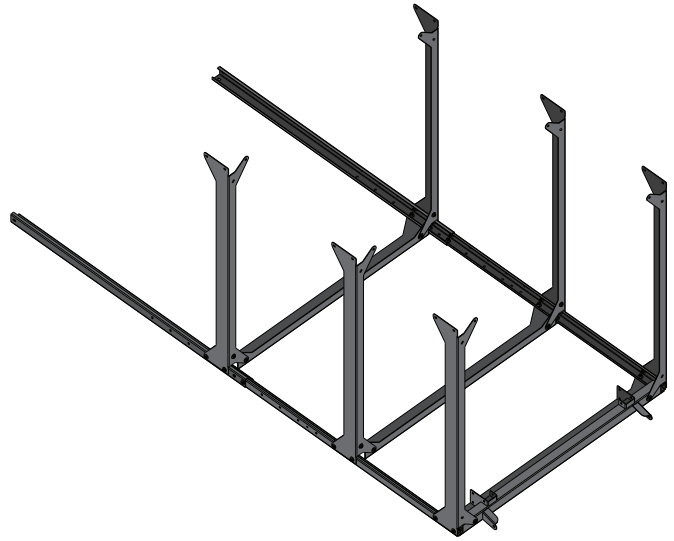
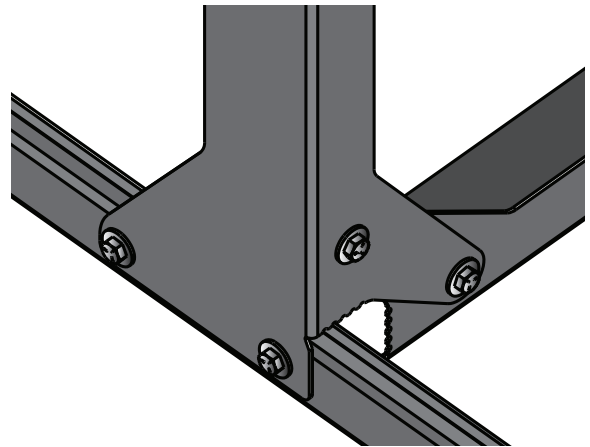

FIG. 4a
FIG. 4b
Secure three Stand Braces (C) to each side of the Leg Assembly using four Bolts (G1), eight Washers (G2), and four Nylock Nut (G3) [FIG. 4a] [FIG. 4b].